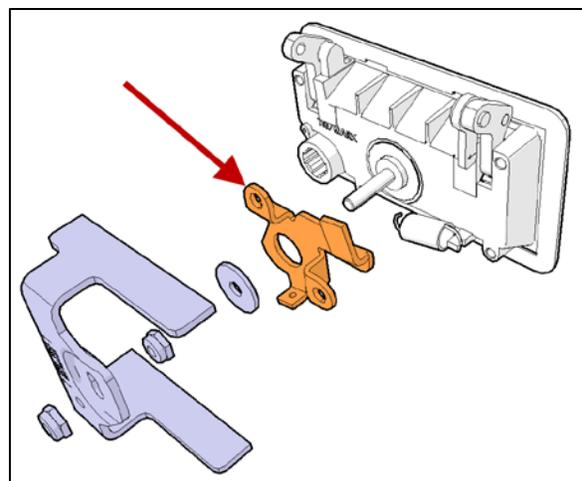

FIGURE 2
4. Remove the linkage rod lever from the new handle (part #780432, Figure 2).